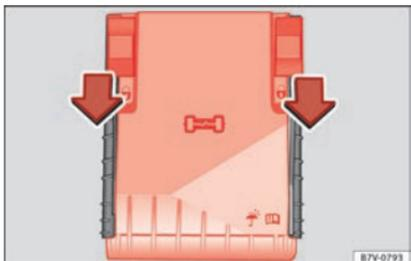

Fig. 61 In the engine compartment: fuse box cover
- Move the attachment tabs forwards, in the direction indicated by the arrow to release the fuse box cover »» **Fig. 61**.